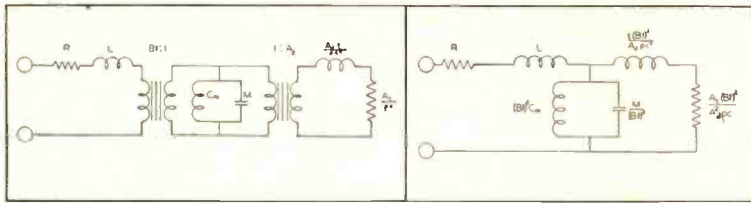
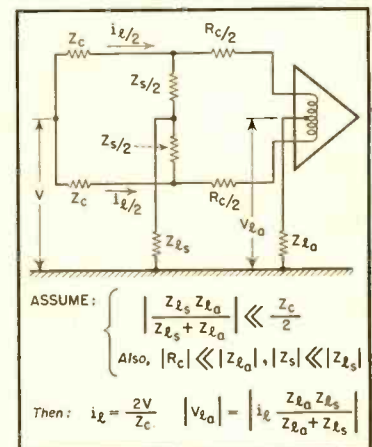

Fig. 7 (left). Equivalent circuit of the entire loudspeaker. Fig. 8 (right). Typical band-pass filter configuration.
Fig. 6. Schematic representation of a longitudinal current resulting from parasitic coupling to a power circuit.
compliance of the air chamber and the resistance of the horn throat to Fig. 6, we have the equivalent circuit of the whole loudspeaker, Fig. 7. This can be reduced to the circuit of Fig. 8, which is a standard band-pass filter, and from the design equations of this filter one finds that for optimum performance the following relations should exist:
These results are shown in the curves of Fig. 6, where (A) is the maximum power in $\frac{1}{8}$ -second intervals for male speech, and (B) represents maximum peak power in the same intervals for a 75-piece orchestra. While there is some reason to believe that higher efficiency in more modern microphones may modify these curves somewhat in the direc-
Some pre-emphasis is employed in practically all commercial recordings made today. Typical curves are shown in Fig. 7, where (A) represents the NAB curve which is generally used with transcriptions and is standard for LP records. The curve used by RCA-Victor is believed to approximate that of (B), while the London (English Decca) curve is shown at (C). Undoubtedly there are some other curves in use, but these shown are commonly employed. If a phonograph amplifier is equipped with means to provide "rolloff" curves which are complementary to these re-
Fig. 6 (left). Curves showing maximum probable power in $\frac{1}{8}$ -second intervals in male speech (A), and in a 75-piece orchestra (B). Fig. 7 (right). Typical pre-emphasis curves: (A) NAB and LP; (B) presumed curve for RCA Victor; and (C) London ffr.
The schematic representation of noise resulting from a longitudinal noise current is shown in Fig. 6. The longitudinal impedances of the input circuit to ground are assumed to be negligible in comparison with the magnitude of the coupling impedance Z_c , between the power circuit and the input circuit of the amplifier. Consider the case in which the metallic-circuit impedances are negligible compared with the magnitude of the longitudinal impedances to ground of the input circuit. The longitudinal noise current entering the circuit is then $i_i = 2V/V_c$. Under these conditions, the longitudinal voltage to ground of the input circuit of the amplifier is